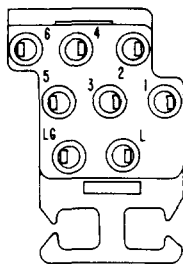

Fig. 8—508-Type Plug
2.07 508-Type: The 508-type (Fig. 8) are molded terminal plugs of insulating material, arranged for assembly of up to eight blade-type and cord-tipped conductors required for connections to individual buttons of key telephone sets.